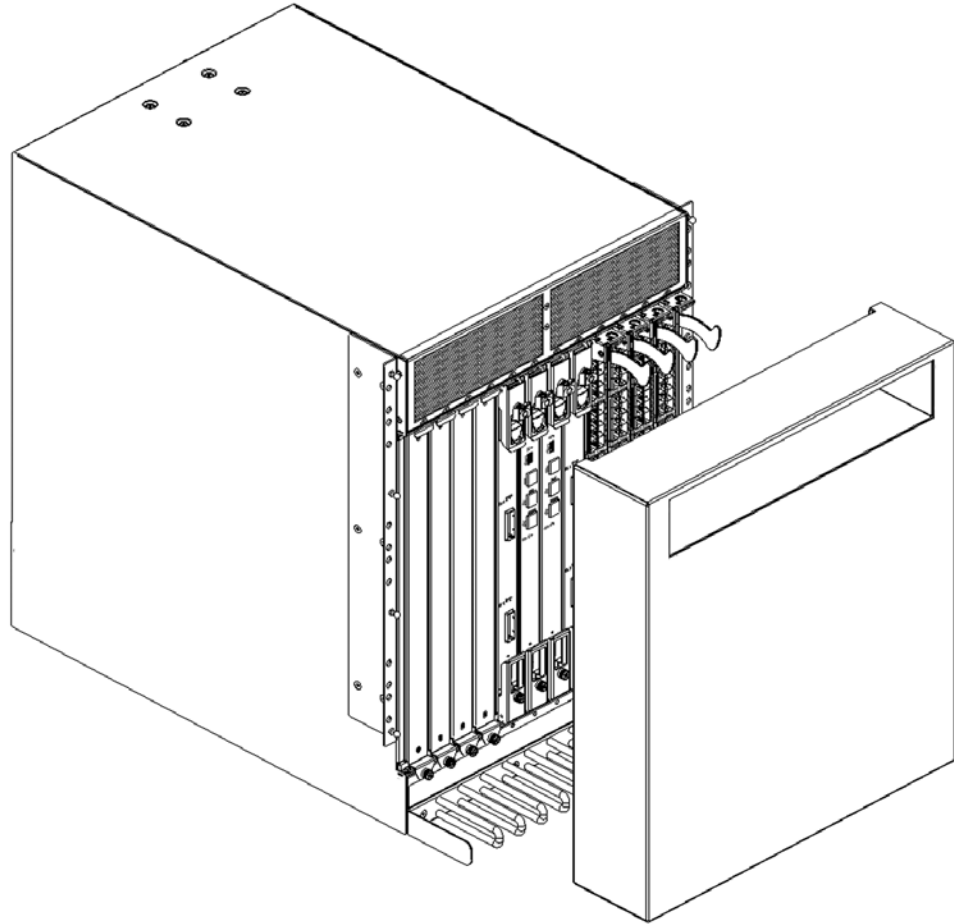

Figure 21. Chassis door
1. Align the door and push it into place. See Figure 21 on page 52.